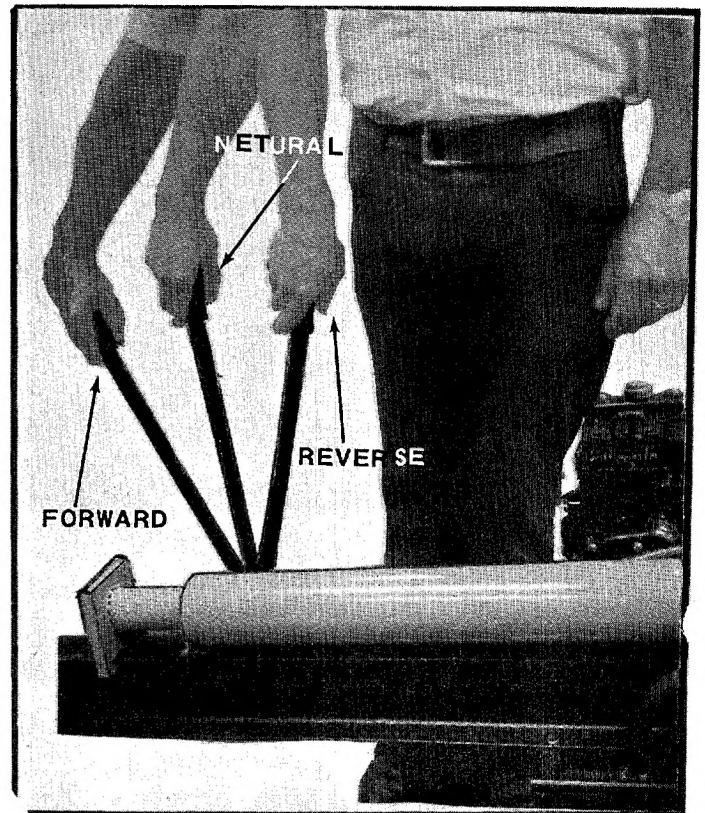

FIGURE 8
- B. Engagement handle has three positions: Forward—moves ram toward wedge. Neutral—ram stops in place. Reverse—ram returns. See figure 8.